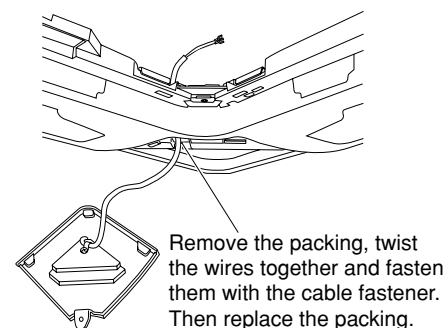

Fig. 11-3
- (3) The square hole used for the panel wiring is filled with packing (sponge material) used for insulation.* Remove the packing, then pass the wiring from the wireless receiver unit through the grill. Twist the wires together and use a cable fastener to fasten them and attach with a screw, then replace the packing in the hole as it was before. (Fig. 11-3)
- (4) After completing wiring as described in "Wiring the Receiver Unit" on the next page, twist the wires together and use a cable fastener to fasten them, leaving a length of wiring that is long enough to permit removal of the adjustable corner cap. (Fig. 11-3)